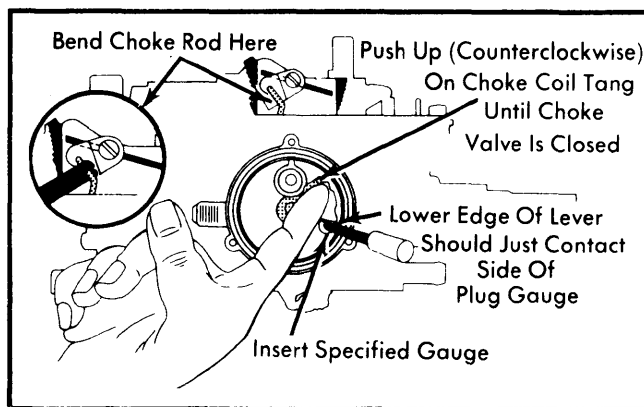

Fig. 4 Adjusting Choke Coil Lever
1) Drill out and remove retaining rivets. Remove choke cover and thermostatic coil from choke housing. See Fig. 4.